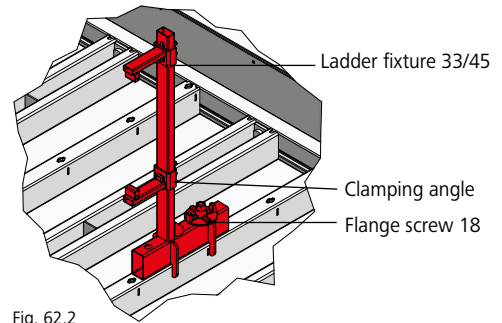

Fig. 62.2
2. Attach the ladder fixture with a flange screw 18 to the panel's multi-function profile (Fig. 62.2).